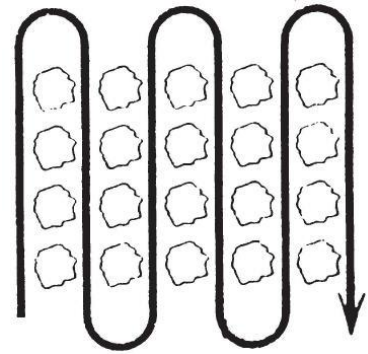

Figure 16
You can use the DR TOW-BEHIND ROTOTILLER for cultivating (**Figure 16**), which requires a minimum of two (2) inches of soil penetration.
- Set the tines so they will penetrate the soil to a depth of two (2) to three (3) inches.